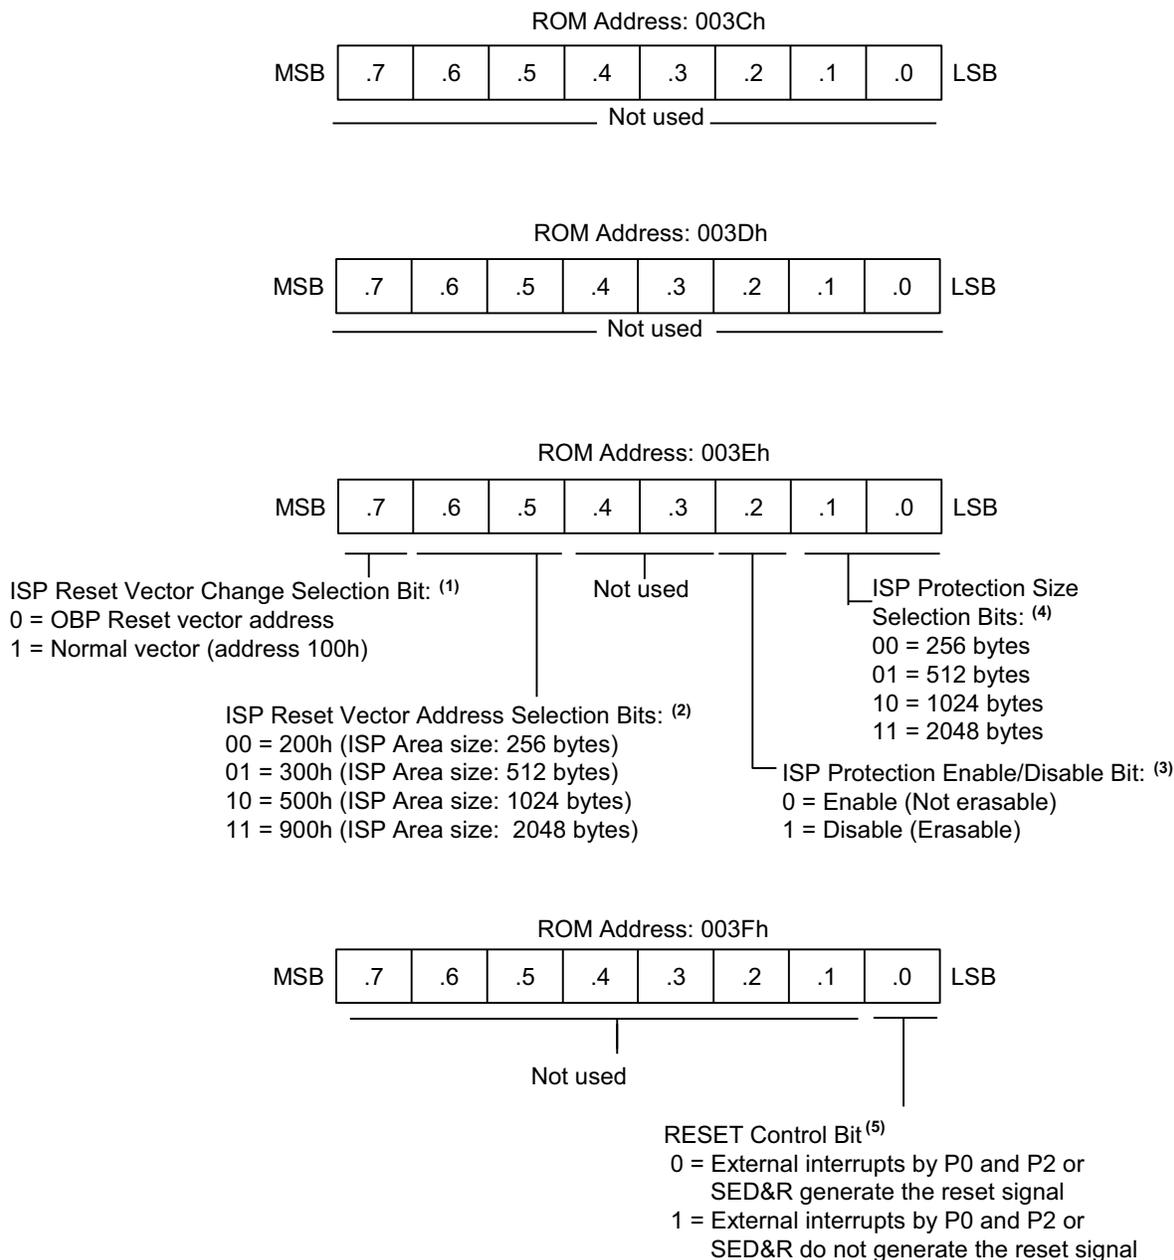

Figure 14. Smart Option
The program memory address at which program execution starts after reset is 0100h (default). If you use ISP sectors as the ISP software storage, the reset vector address can be changed by setting the Smart Option; see the next section and/or Figure 14.
The *Smart Option*, diagrammed in Figure 14, is the program memory option for setting the starting condition of the S3F80P9 MCU. The program memory addresses used by the Smart Option are from 003Ch to 003Fh. The S3F80P9 MCU uses only addresses in the range 003Eh to 003Fh.
1. In Figure 14, by setting ISP reset vector change selection bit (3Eh.7) to 0, the ISP area becomes available. If this bit is 1, 3Eh.6 and 3Eh.5 are rendered meaningless.